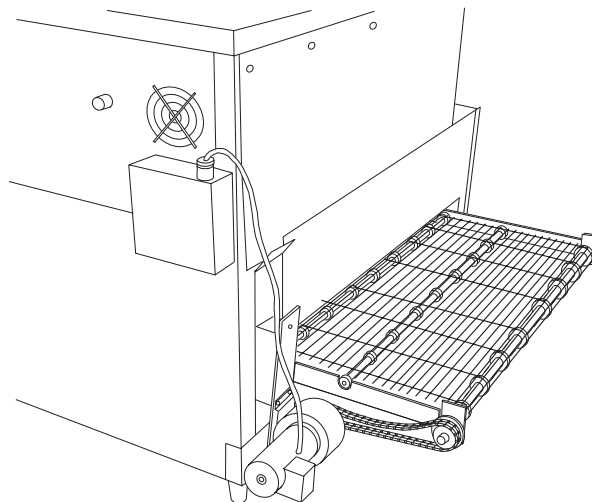

Figure 2-30
- LOOSELY attach the conveyor drive motor to the end wall of the oven, as shown in Figure 2-30.